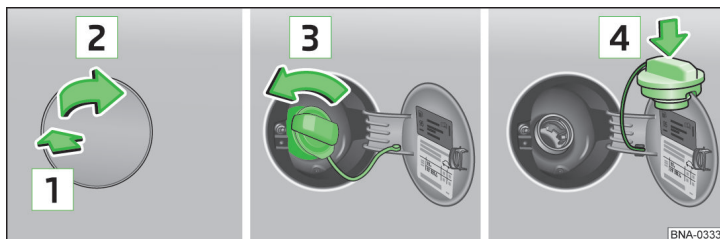

Fig. 74 Opening the fuel filler flap/unscrewing the tank cap/placing the tank cap on the fuel filler flap
The correct fuel for your vehicle is specified on the inside of the fuel filler flap» fig. 74 on page 75.
- Press the fuel filler flap in direction of arrow **1** and fold in the direction of arrow **2** » fig. 74.
The correct fuel for your vehicle is specified on the inside of the fuel filler flap » fig. 74 on page 75.
The correct fuel for your vehicle is specified on the inside of the fuel filler flap» **fig. 74** on page 75.